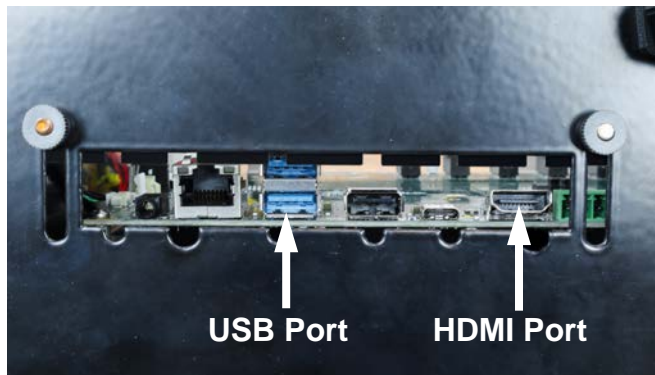
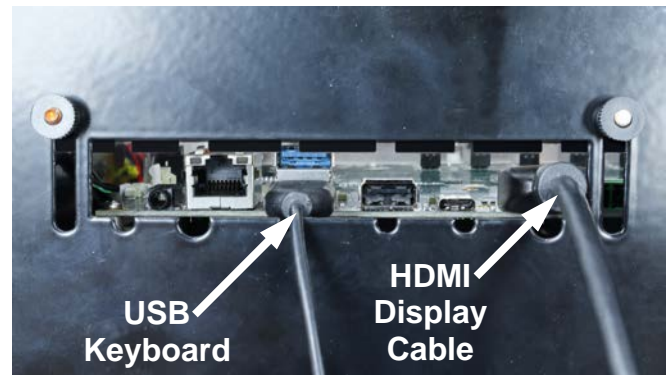

Figure No. 5
Figure No. 6
2. Referring to Figure No. 5, locate the HDMI port on the mainboard (*it will be on the right of the opening in the rear of the enclosure*) and insert the HDMI cable through the opening into the enclosure, and then push the cable connector into the port on the mainboard. Ensure the cable connector is completely in the port, and then position the cable in the notch on the rear of the enclosure. See Figure No. 6.
3. Next, again, referring to Figure No. 5, locate the two USB ports next to the network cable port (*they will be approximately in the center of the opening*) and insert the USB keyboard cable into either one of the ports on the mainboard. Ensure the keyboard cable connector is completely in the port, and then position the keyboard cable in the middle notch on the rear of the enclosure. See Figure No. 6.